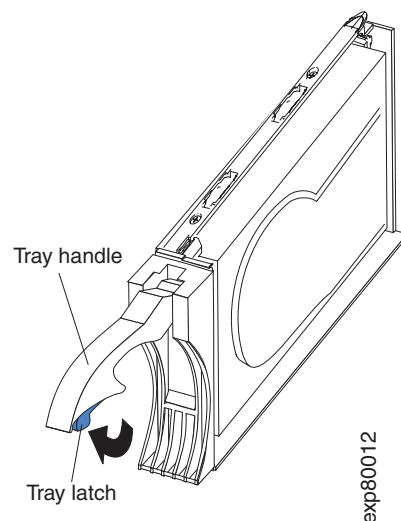

Figure 110. E-DDM CRU handle
- b. Pull the handle on the tray out so that it is in the open position, as shown in Figure 110.
- a. Release the latch on the E-DDM CRU by pressing on the inside of the bottom of the tray handle, as shown by the arrow in Figure 110 on page 152.